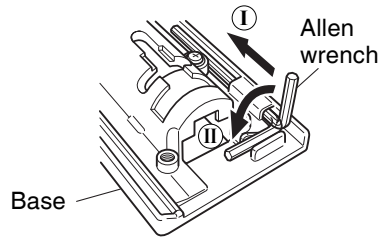

Fig. 15
- It is possible to house the axiliary allen wrench on the base (see Fig. 15).